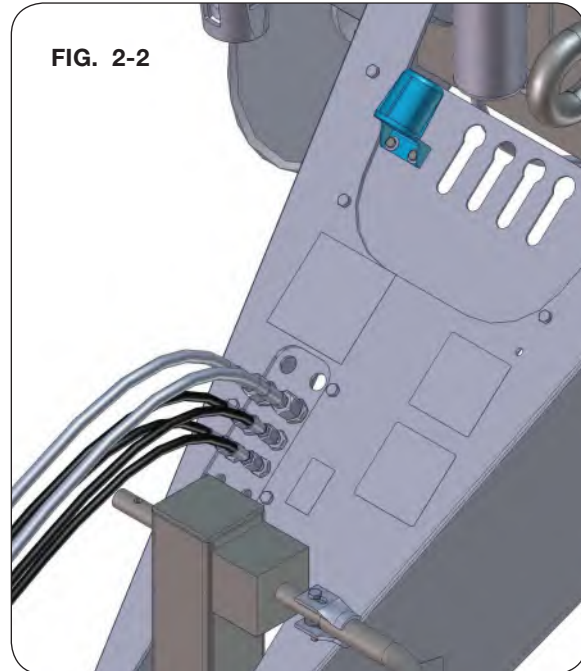

FIG. 2-2
4. Attach the bulkhead plate with hoses and fittings to the tongue assembly with three 3/8"-16UNC x 1" capscrews (9390-055), 3/8" lock washers (9404-021), and 3/8"-16UNC hex nuts (9394-006). (FIG. 2-2)